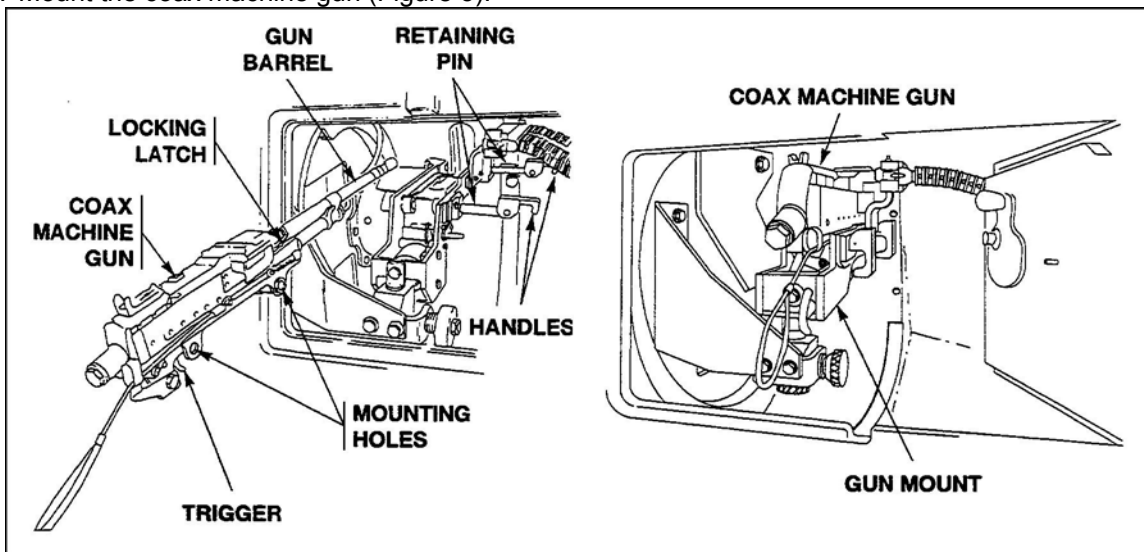

Figure 3. Coax machine gun mount.
3. Mount the coax machine gun (Figure 3).